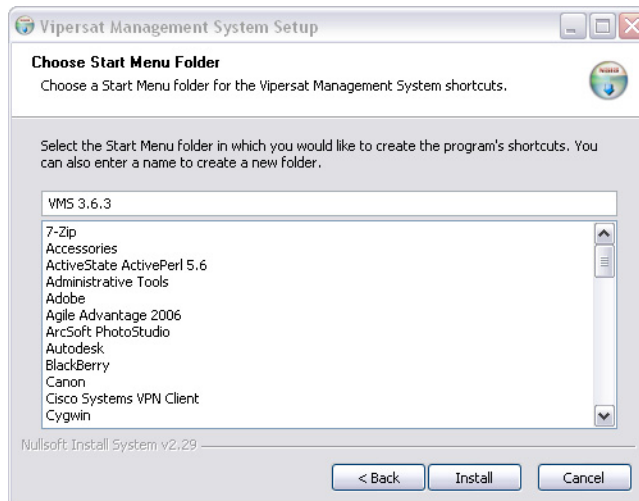

Figure 2-18 Choose Start Menu Folder dialog
14. From the **Choose Start Menu Folder** dialog shown in figure 2-18, accept the default folder name, VMS 3.x, and click the **Install** button to start the installation process.